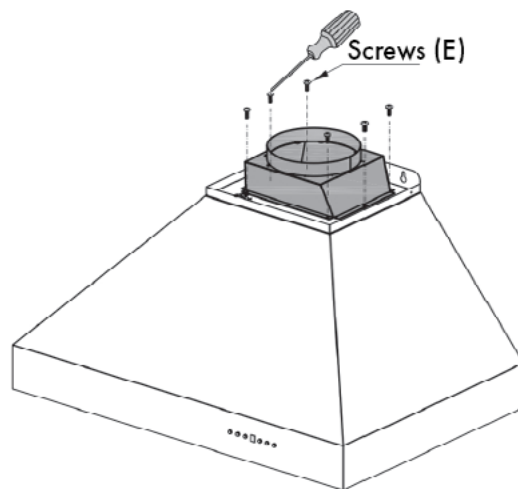

Figure 4
5. Install the transition piece on top of the range hood by securing it with screws (E) provided. Some hoods require 4 screws, others require 6. *Figure 4*